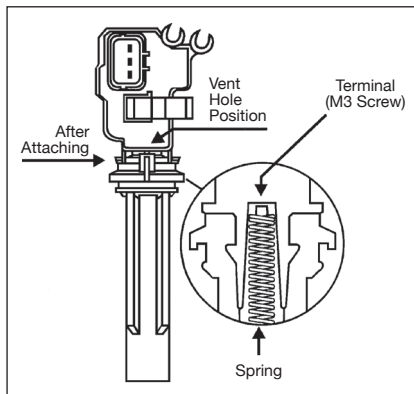

Fig. 2
4. After attaching the insulator boot to the coil, position the ventilation hole of the insulator boot. (See Fig. 2)